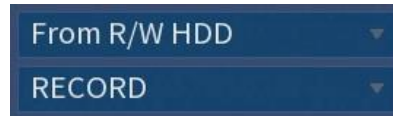

Figure 5-67
- **From R/W HDD:** Recorded videos or snapshots playback from HDD of the Device. See Figure 5-67.